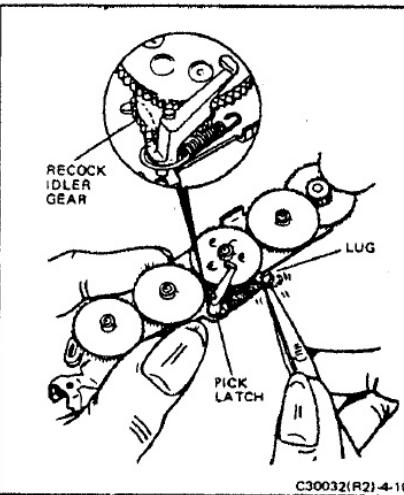

FIGURE 4-105 INSTALLING THE PICK LATCH
8. On newer cameras, position the pick latch pivot in the proper hole of the outer plate and hook the longer end of the pick latch spring onto the latch. Using tweezers as shown in Figure 4-105, hook the opposite end of the spring over the retaining lug.
9. On early cameras, hook the wide end of the pick latch spring on the pick latch and slide the short hooked end of the latch under the recocock gear. (See the inset in Figure 4-105.) Set the latch pivot into the hole on the outer plate and, with tweezers, hook the opposite end of the spring over the retaining lug.